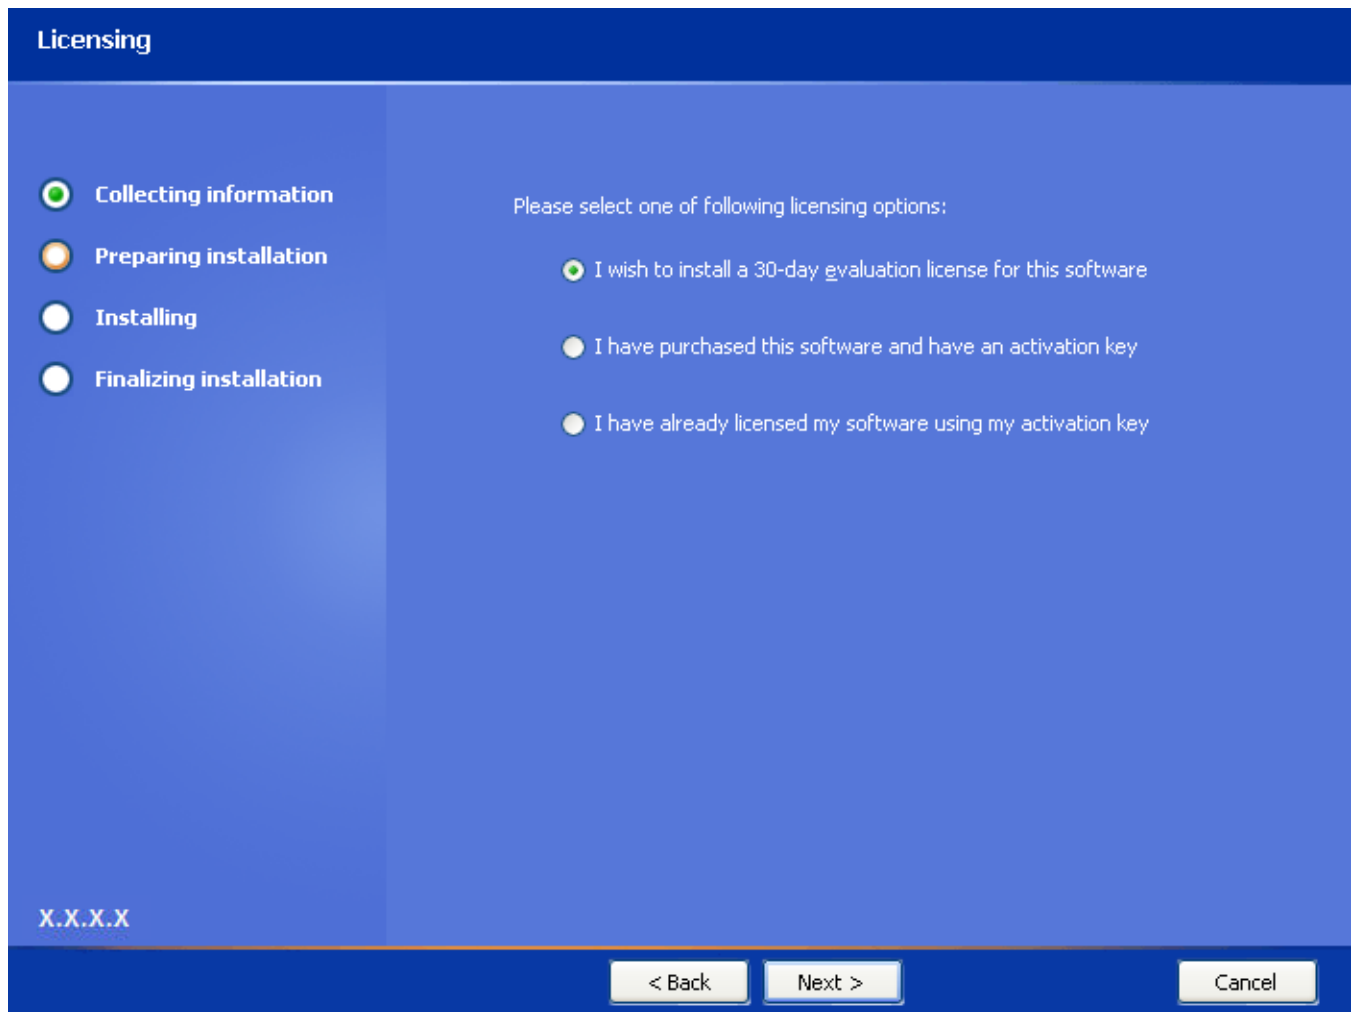

Figure 7 - Licensing Screen
13. Click on the **Next** button to accept the default password. The **Licensing** screen (Figure 7) appears.